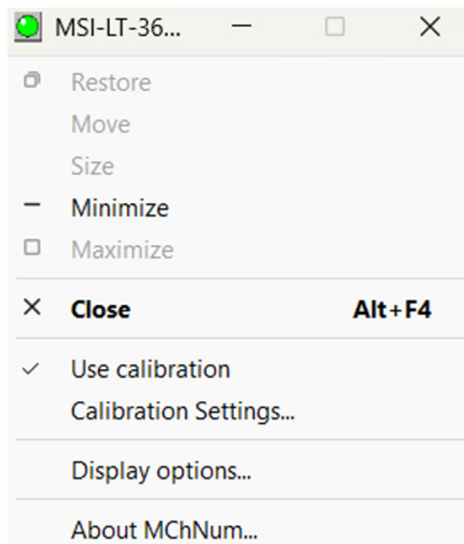

Figure 5-1: MChNum Dropdown Menu
2. Navigate to the **MChNum** browser and right click on the top of the window to display the dropdown. Select **Display options** (Figure 5-1).